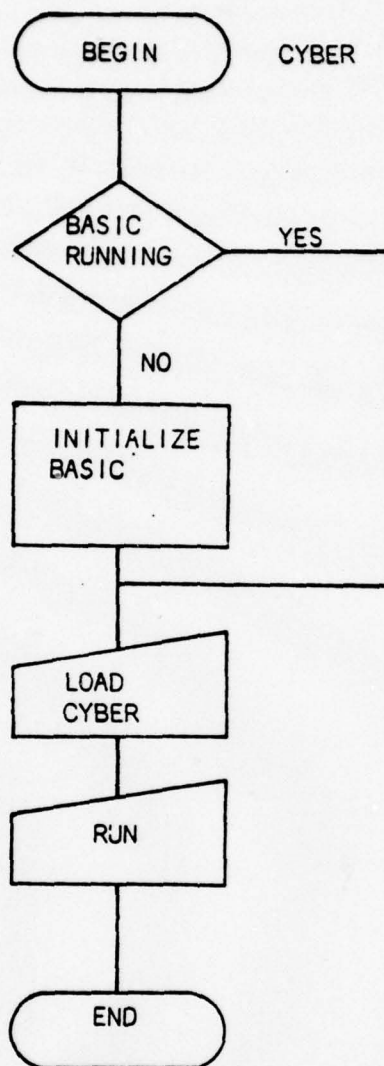

Figure 2-4 CYBER Initialization Flowchart
2.2.3 CYBER Program Initialization. The CYBER computer program is written in BASIC source code and is stored on the mini-floppy diskette labelled CYBERSCP. It contains the software required to interpret and execute the CYBER program commands described in Section 3.3. Since it is written in BASIC source code, the BASIC program must be initialized prior to executing CYBER. The procedures for initializing the CYBER program are (see Figure 2-4):